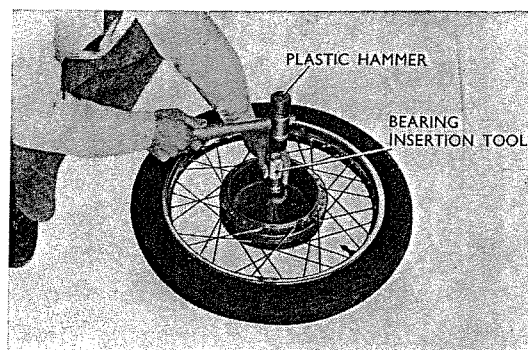

Fig. 4.90 Ball bearing positioning
2. Apply grease to ball bearing 6303 R, and the rear wheel hub. Insert the spacer and hit 6303 R ball bearing into position (Refer to Fig. 4.90)
As ball bearing 6303 R employs ball bearing with dust seat, check the difference of the external and internal sides. (Refer to Fig. 4.90)